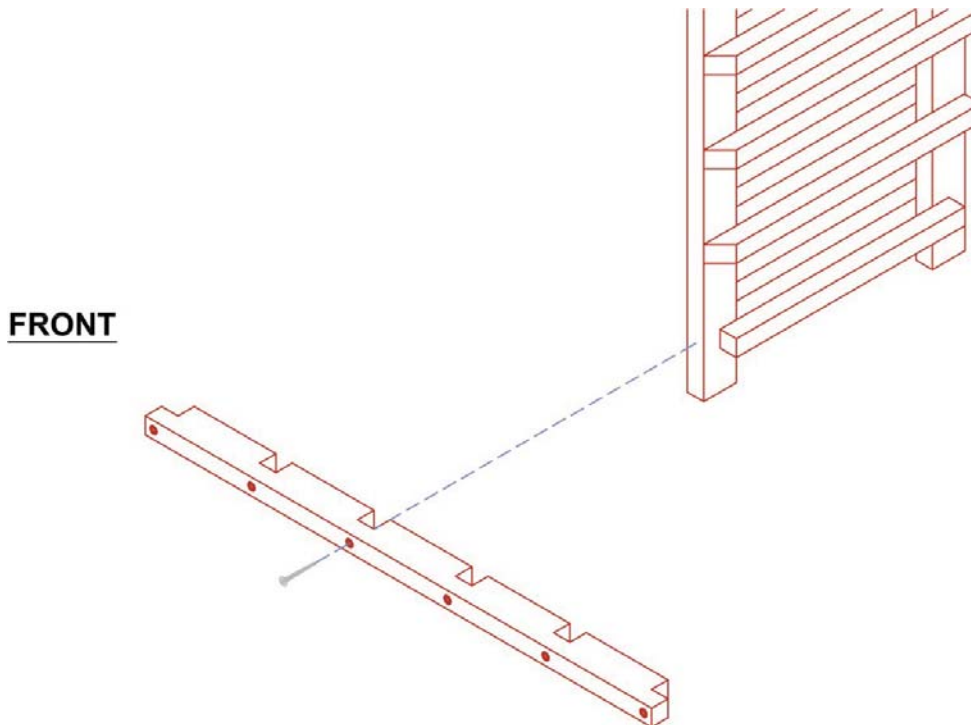

Figure 1
2. Set your double-sided ladder with the back uprights on the floor (angled slats facing up) and fit your spacer bar on the front upright of your ladder by placing the dados (or grooves) of the spacer bar onto the upright (**Figure 1**). It may be necessary to tap the spacer bar lightly with a soft-faced hammer to fit, taking care to align the spacer bar vertically with the spacer slat behind it.